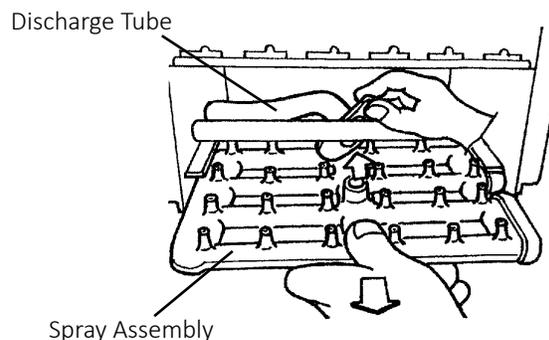

Fig. 32
7. Disconnect the discharge tube from the spray assembly, then slide out the spray assembly. See Fig. 32.